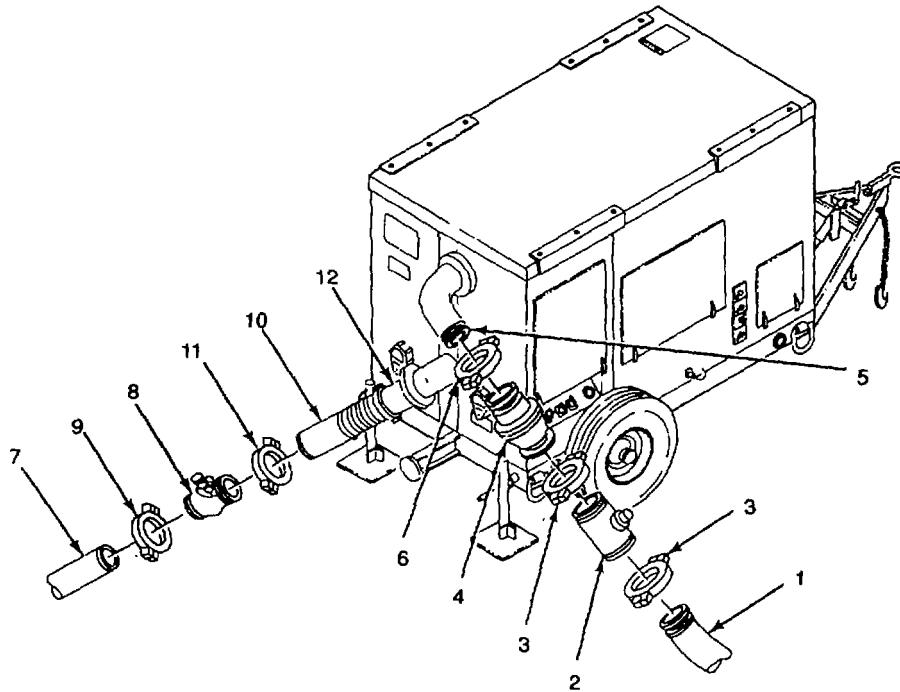

Figure 2-42. Disassemble Lead Pump Station
- (10) Remove 6-inch butterfly valve (15) from lateral grooved wye-fitting (17) by removing 6-inch boltless coupling (18) (para. 2-8.c.).
- (11) Disconnect 10-mile segment collapsible hoseline (19) from lateral groove wye-fitting (17) by removing 6-inch boltless coupling (20) (para. 2-8.c.).
- (12) Remove lateral grooved wye-fitting (17) from 6-inch butterfly valve (21) by removing 6-inch boltless coupling (22) (para. 2-8.c.).
- (13) Remove 6-inch butterfly valve (21) from suction hose (23) by removing 6-inch boltless coupling (24) (para. 2-8.c.).
- (14) Open cam arms and disconnect suction hose (23) from pump suction line (25).
- (15) Install plastic cap on pump suction line (25).
(16) Prepare pumping assembly for movement by tow vehicle. Refer to applicable technical manual for water pumping assembly 600 GPM trailer mounted.
g. Disassemble Lead Pumping Station. Perform the following (Figure 2-42):